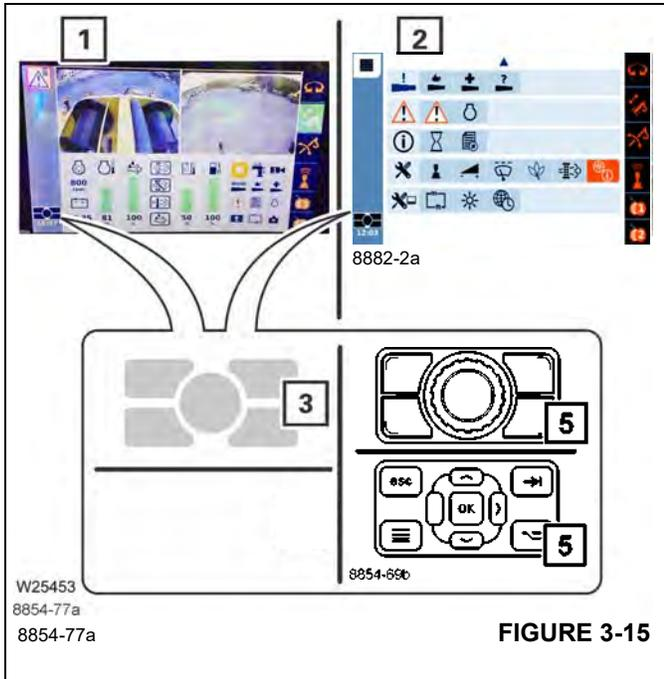

FIGURE 3-15
The symbol (3), (Figure 3-15) will appear at the bottom left hand corner of the active display, no symbol will be displayed on the inactive display. Use button (5), (Figure 3-15) of the jog dial or control panel to switch between screens.